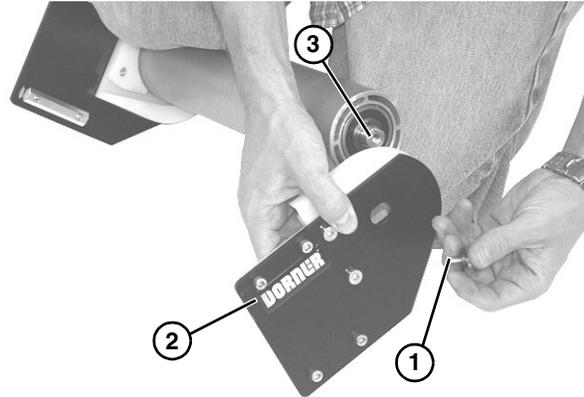

Figure 44
4. Remove socket head screw (Figure 44, item 1) from plate (Figure 44, item 2) and center of spindle shaft (Figure 44, item 3). Repeat procedure on opposite side.